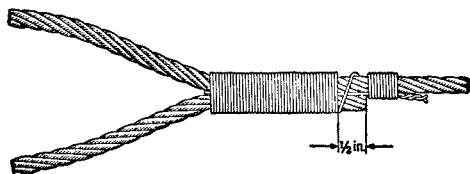

Fig. 11
**6.07** Continue placing the serving wire over the tails in close, tightly wound coils to a point about 1/2 inch short of the ends of the strand tails. Spiral the wire down to solid rope and finish the serving with about 10 wraps on the rope. Pigtail the ends of the serving wire. (See Fig. 11.)